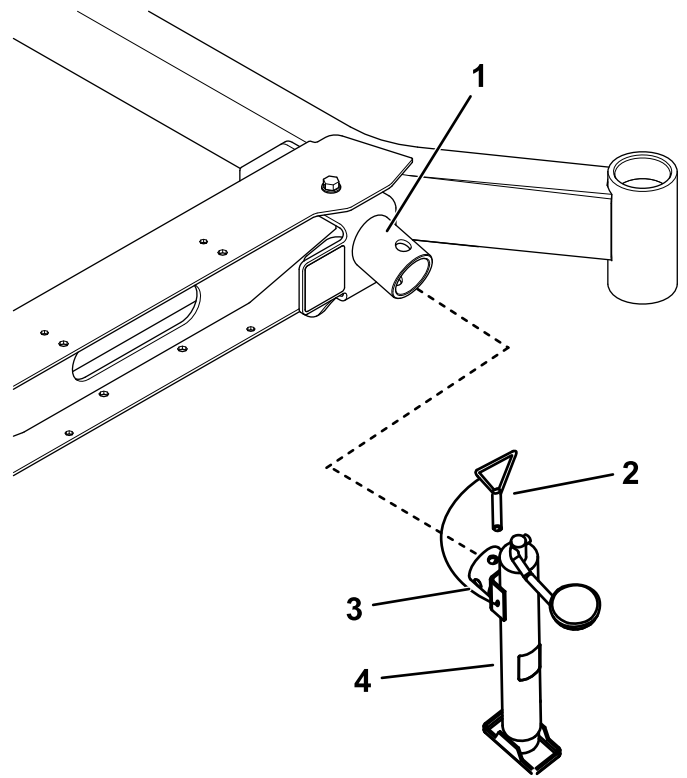

Figure 4
3. Attach the jack to the jack mount with a jack pin (Figure 4).